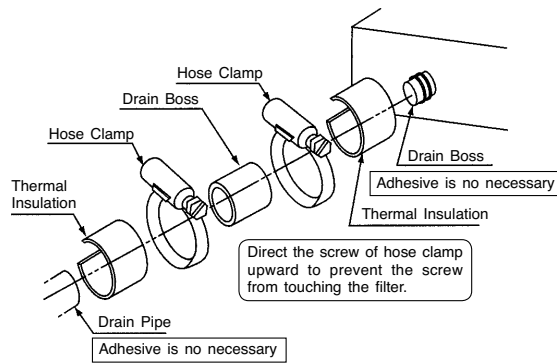

Fig. 3-1 Connecting Drain Piping
(1) For Right Side Connection
- Tighten the screw for the hose clamp in order to hold the hose around the drain connection without any leakage of drain water as shown in Fig. 3-1.
- Insulate the drain hose around the hose clamp to prevent any condensation as shown in Fig. 3-1.